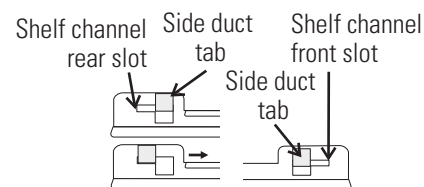

Figure 1-12. Channels and Slots
4. Install the shelf channels by placing the channel's rear slot over the appropriate rear tab on the side duct. Pull the shelf channel forward and engage the channel's front slot into the side duct's appropriate forward tab. Refer to Figure 1-12.